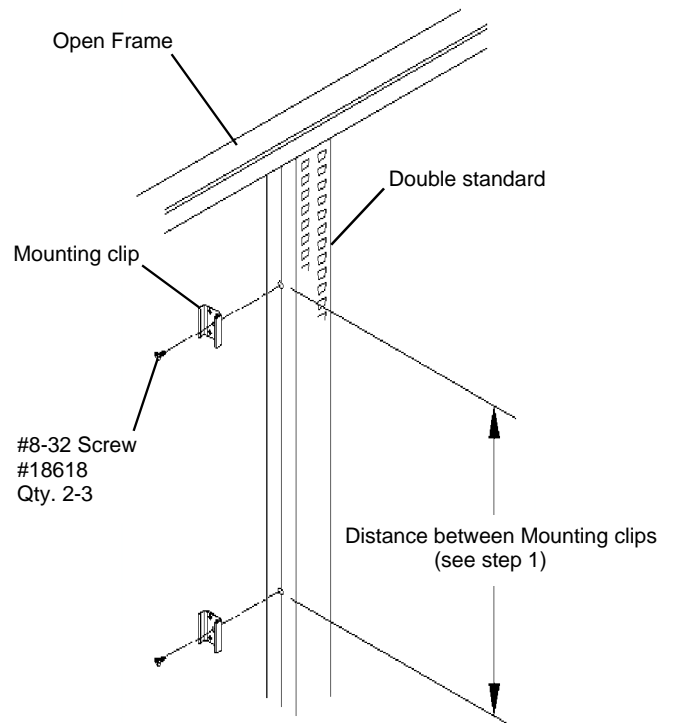

Figure 4
1. Position a Mounting Clip at its highest location, centered on the **Double Standard**, and mark this point with a center punch. To position the second Clip, refer to step 2, page\_ for the correct location. See **Figure 4**.
2. Drill two holes in the Double Standard and attach the Mounting Clips with the #8-32 Screws provided. See **Figure 4**.